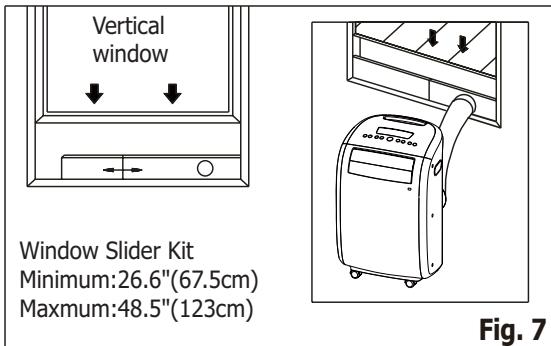

Fig. 7
4. Affix the adaptor B into the window slider kit and seal. (Fig. 7&8)